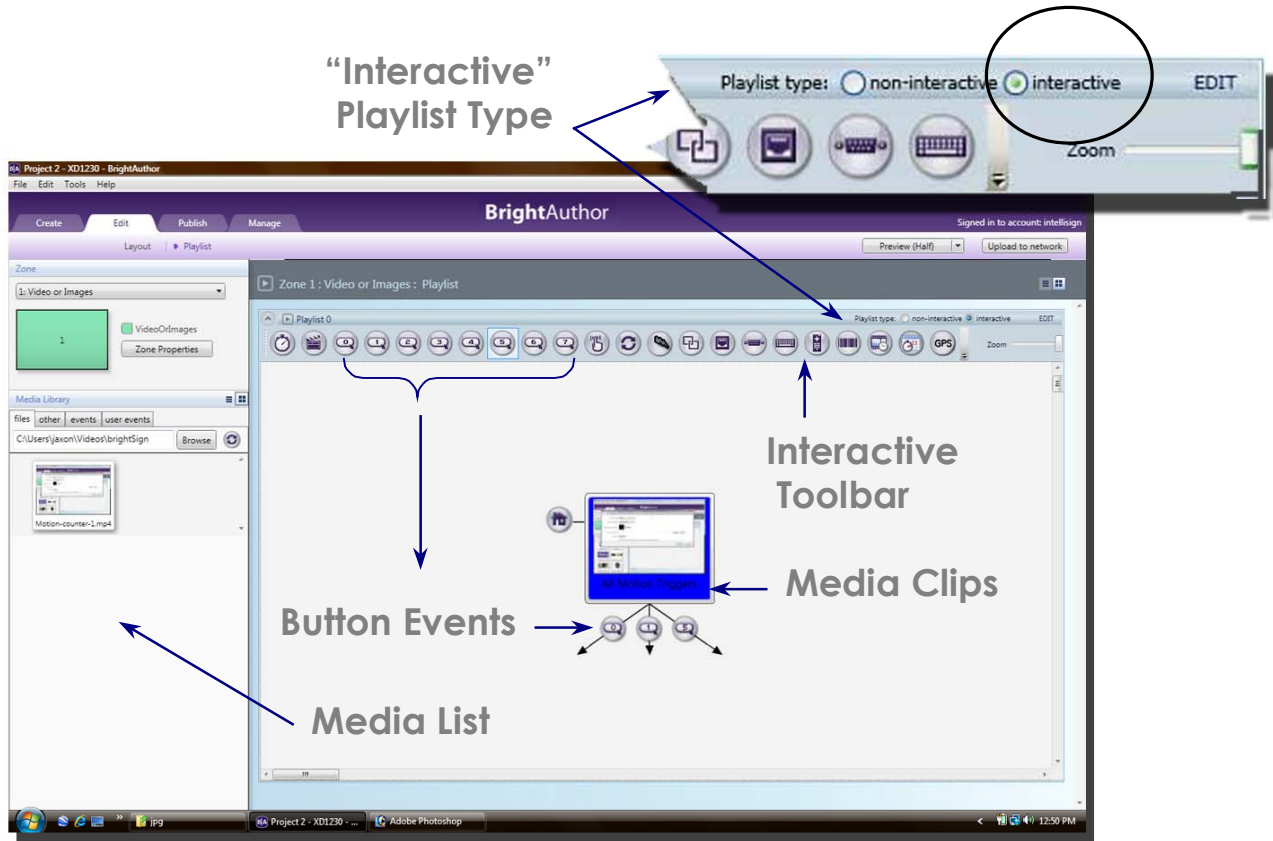

Figure 3.1.1
When the playlist type has been set to interactive, BrightAuthor switches to the authoring environment shown in Figure 3.1.1. This mode will enable BrightAuthor’s interactive functionality and provides a customizable toolbar from which a variety of commands can be added and conveniently accessed.
- All BrightAuthor playlists that use the MD755 must be set to "Interactive" as shown in Figure 3.1.1. When finished the presentation setup, you're ready to start adding content.
- Click on the GPIO 0 event icon in the toolbar as shown in Figure 3.1.1. The icon you select becomes the active function which will be applied.